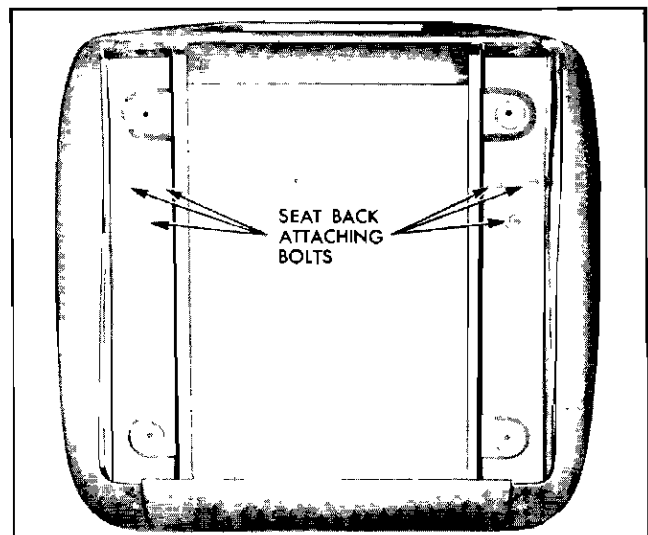

Fig. 5-10 Bucket Seat Back Attaching Bolts
2. Remove seat back frame to seat frame attaching bolts (Fig. 5-10) and remove seat back assembly from seat.